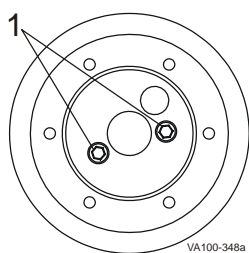
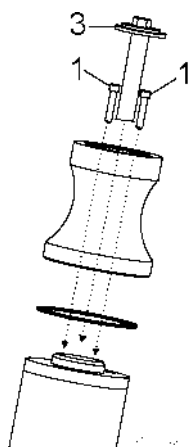

Figure 6 : Top View of Adapter Fastening Cap Screws
Figure 7 : Installation of Cap Screws and New Stem Top
3. Fasten the adapter in place with two cap screws (Figure 6 and Figure 7, item 1).
4. Install the range spring stem (Figure 7, item 3) required for the Moore Positioner.
5. Place the range spring (Figure 8, item 2) on top of the range spring stem (Figure 7, item 3).